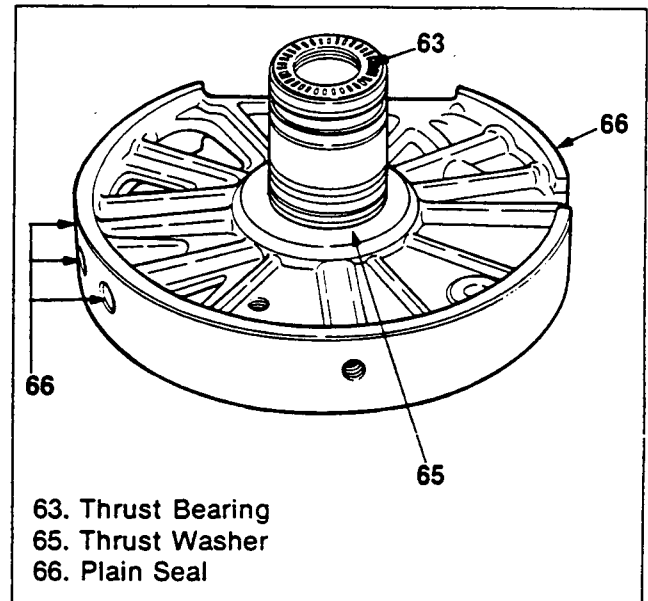

Figure 23. Drum Support Inspection
6. Remove the thrust washer, and the thrust bearing (figure 23).
Inspect (Figure 23)